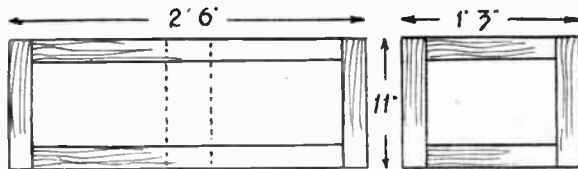

Fig. 1—Front and side view of framework
A front and side view of the box frames are shown in Fig. 1, with suggested dimensions. The timber employed can be deal, $\frac{3}{4}$ in. thick and 2 ins. wide. The corner joints for the long sides are of the simple halved kind, known to all readers. Those employed for the ends are similar, but stopped $\frac{1}{2}$ in. away from the ends, as shown in detail (A) Fig. 2, so that no cut ends appear when the frames are joined up. The view of the joints seen at (A) is from the inside, so is not visible to the view, outside.